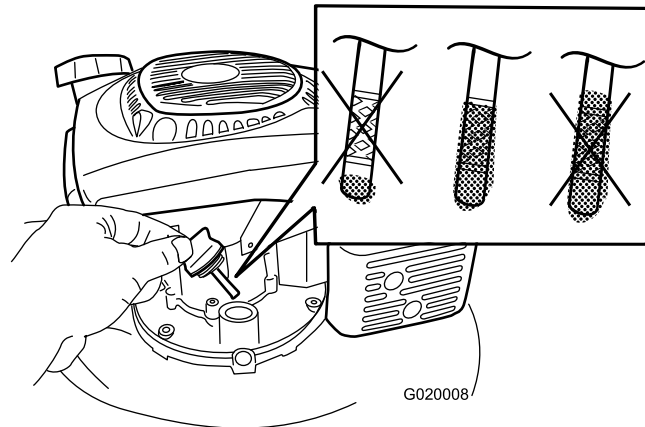

Figure 5
1. Remove the dipstick (Figure 5).
2. **Slowly** pour oil into the oil-fill tube until the oil level reaches the Full line on the dipstick (Figure 5). **Do not overfill.** (Max. fill: 22 oz. (0.65 l), type: 10W-30 or SAE 30 detergent oil with an API service classification of SJ or higher.)
Note: Each time you check the oil level, remove the dipstick and wipe it clean, insert it into the oil filler neck (but **do not** screw it in), then remove it again and check the level (Figure 5).